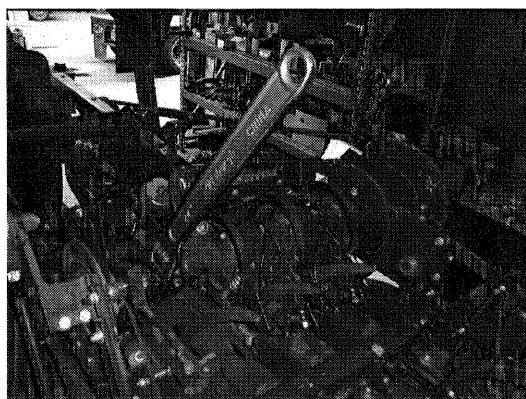
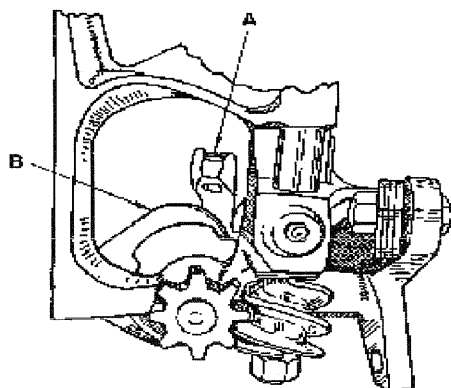

Fig.16
Fig.17
1. Trip the knotter clutch and swing the needles up through the bale chamber by turning the flywheel clockwise by hand or using a large wrench as shown in Fig. 16. The needles "A" Fig. 17 should be adjusted left or right so that there is 0 to 1/32" (.8 mm) clearance between the needle and the knotter hook pinion "B," Fig. 17. Adjust by sliding the needle left or right on the needle yoke.